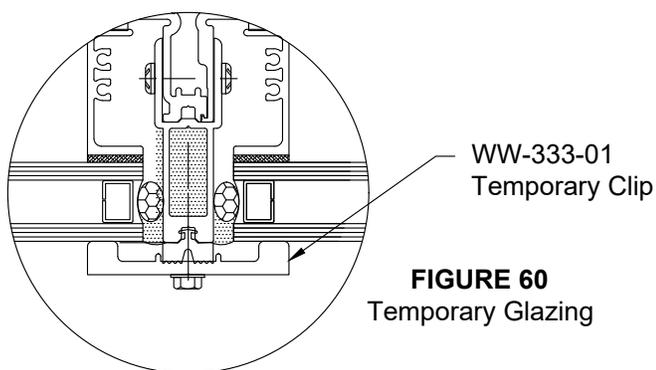

FIGURE 60
- 4.20 Install glass into opening similar to Figure 23, page 21 . Use WW-333-01 temporary clips to hold glass into opening. Locate the clips at minimum 2 per head and sill and 36" on center on vertical edge or minimum 2 clips. See FIGURE 60